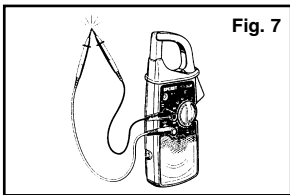

Fig. 7
- (3) With the test leads open set the pointer over the " ∞ " (infinity, mark at the left end of the ohm scale, using the zero adjust screw.
- (4) With the test leads shorted set the pointer over the "0" mark at the right end of the ohm scale, using the ohm zero adjust knob (Fig. 7).